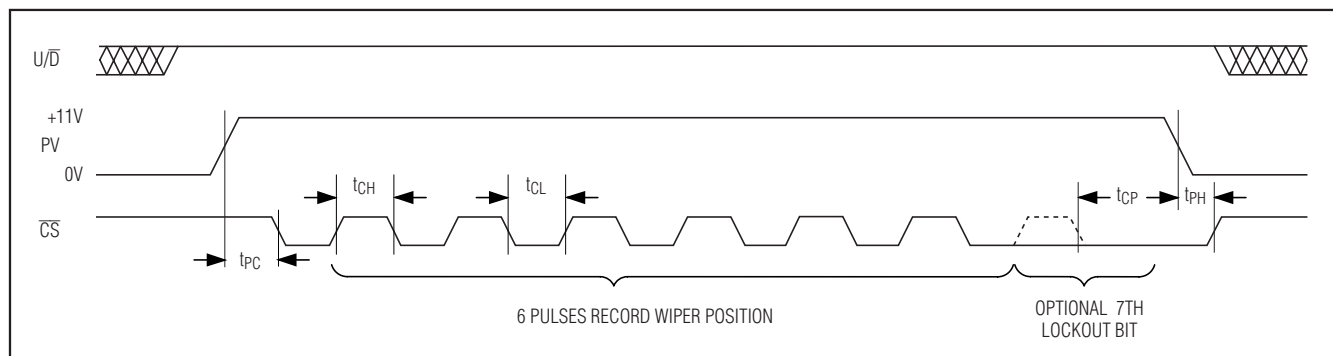

Figure 5. One-Time Program Mode, Serial-Interface Timing Diagram
| $\overline{CS}$ Falling Edge to PV Falling Edge                                 | $t_{CP}$                | Figure 5                                           | 5              |           |                | ms      |
| $\overline{CS}$ Step Low Time                                                   | $t_{CL}$                | Figure 5                                           | 5              |           |                | ms      |
| $\overline{CS}$ Step High Time                                                  | $t_{CH}$                | Figure 5                                           | 5              |           |                | ms      |
| PV Falling Edge to $\overline{CS}$ Rising Edge                                  | $t_{PH}$                | Figure 5                                           | 1              |           |                | ms      |
Change the wiper's power-up position using the PV one-time programming sequence after power-up (see Figure 5). After setting the wiper to the desired power-up position, perform the following six-step sequence:
- 4b) Pulse  $\overline{CS}$  high for seven cycles, consisting of  $\overline{CS}$  starting low and going high for at least  $t_{CH}$  and then low for at least  $t_{CL}$ , to change the wiper power-up position and lock the wiper in that same position. The seventh  $\overline{CS}$  pulse is labeled the optional lockout bit in Figure 5.